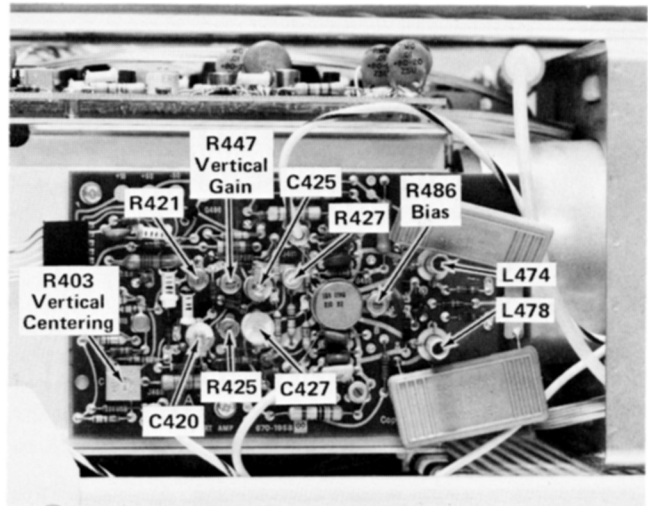

Fig. 2-3. Location of vertical system adjustments (Vertical Output board).
- d. ADJUST—Bias R486 for maximum gain. (See Fig. 2-3.)
- c. ADJUST—Vertical Centering adjustment R403 (see Fig. 2-3) to position the trace to the center horizontal line.
- d. ADJUST—Vertical Gain adjustment R447 (see Fig. 2-3) for exactly six divisions of deflection between the second and sixth traces.
e. ADJUST—High-frequency compensation as given in Table 2-2 for optimum square leading corner and flat top with minimum aberrations within limits given in part c. Location of adjustments is shown in Fig. 2-3. Use the low-capacitance screwdriver to adjust the variable capacitors. Repeat the complete adjustment procedure several times to obtain optimum adjustment.